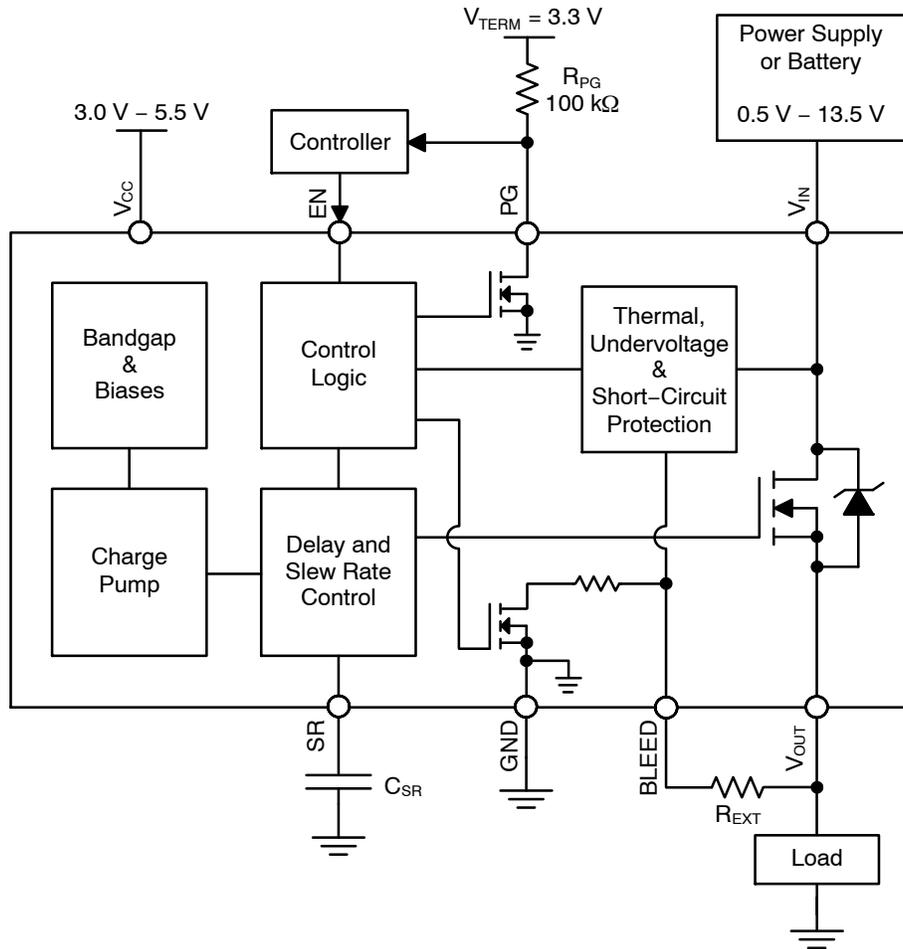
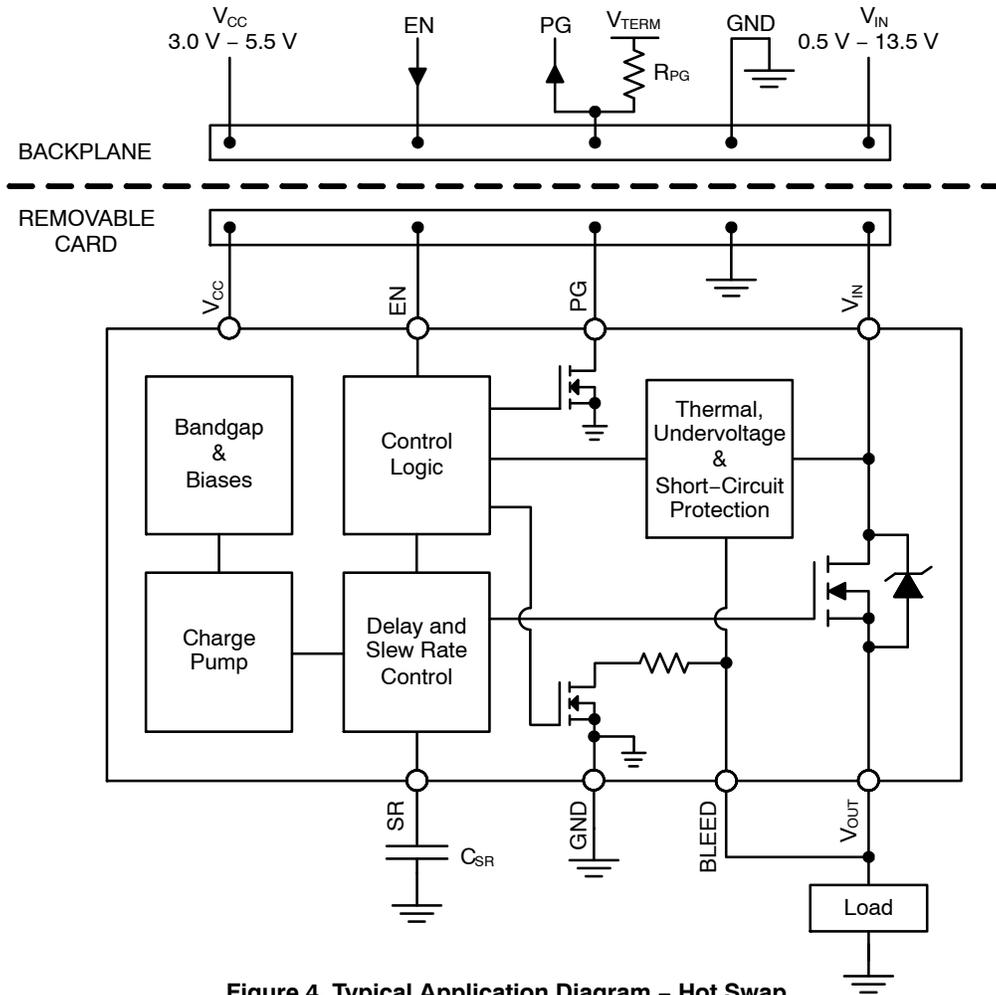

Figure 3. Typical Application Diagram - Load Switch
Figure 4. Typical Application Diagram - Hot Swap
It is required that the BLEED pin be connected to  $V_{OUT}$  either directly (as shown in Figure 4) or through an external resistor,  $R_{EXT}$  (as shown in Figure 3).  $R_{EXT}$  should not exceed 1 k $\Omega$  and can be used to increase the total bleed resistance.
The NCP45560 devices have a power good output (PG) that can be used to indicate when the gate of the MOSFET is fully charged. The PG pin is an active–high, open–drain output that requires an external pull up resistor,  $R_{PG}$ , greater than or equal to 1 k $\Omega$  to an external voltage source,  $V_{TERM}$ , compatible with input levels of other devices connected to this pin (as shown in Figures 3 and 4).
The slew rate can be decreased with an external capacitor added between the SR pin and ground (as shown in Figures 3 and 4). With an external capacitor present, the slew rate can be determined by the following equation:
Once active, the circuitry monitors the difference in the voltage on the  $V_{IN}$  pin and the voltage on the BLEED pin. In order for the  $V_{OUT}$  voltage to be monitored through the BLEED pin, it is required that the BLEED pin be connected to  $V_{OUT}$  either directly (as shown in Figure 4) or through a resistor,  $R_{EXT}$  (as shown in Figure 3), which should not exceed 1 k $\Omega$ . With the BLEED pin connected to  $V_{OUT}$ , the short–circuit protection is able to monitor the voltage drop across the MOSFET.